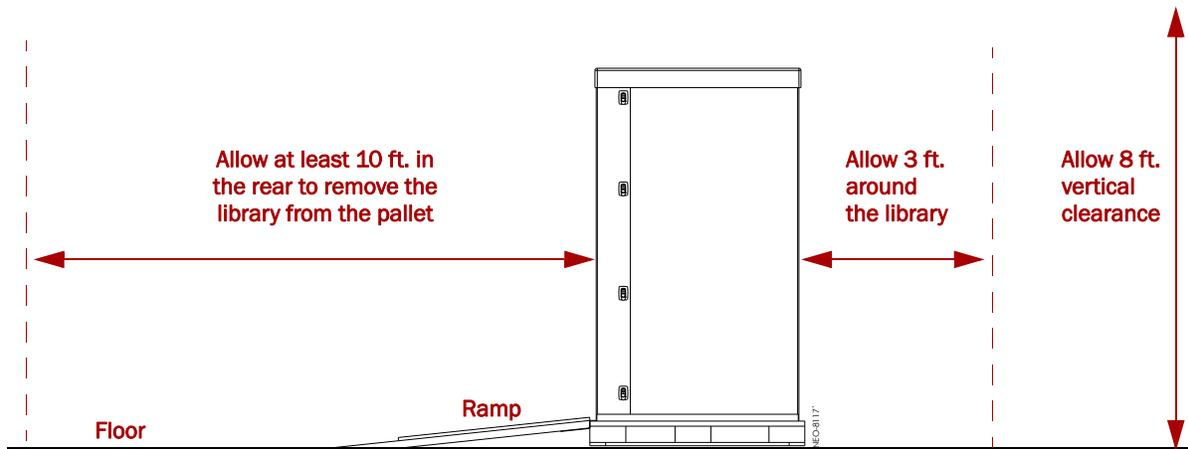

Figure B-1. Unpacking Space Requirements
8. **Position** the shipping container on a level surface so there is enough clearance to work around it (Figure B-1).